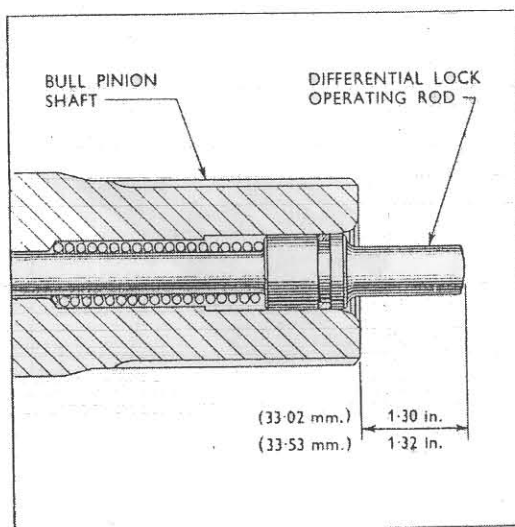

Fig. 15
4. Replace the castellated nut to retain the coupling and, by means of this nut, adjust the protrusion of the differential lock operating rod from the outer end of the bull pinion shaft to 1.30-1.32 in. (33.02-33.53 mm.) as illustrated in Fig. 15.